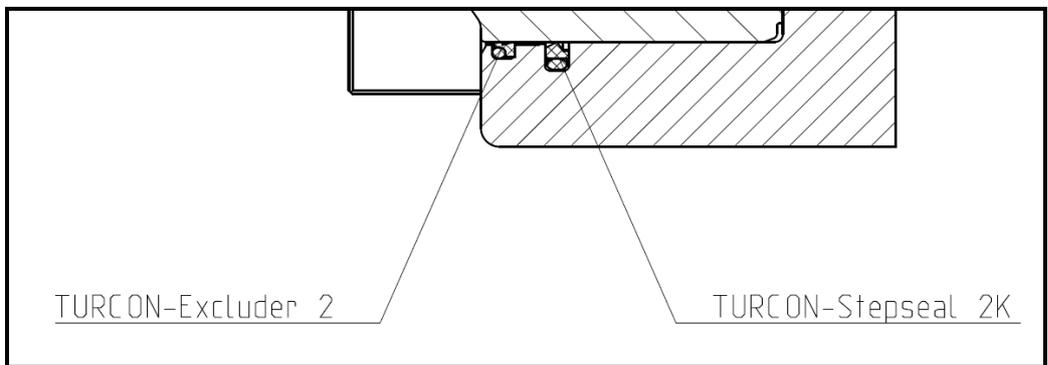

Fig. 11.3
- Disassemble the half of the brake caliper. Loosen the hexagon nuts M10 (item 8) and remove the pressure springs and the friction pad. Close up one pressure oil connection on the brake caliper half and attach a hydraulic hand pump onto the second pressure oil connection. Hold the brake housing (item 2) tight or clamp it. Squeeze the brake pistons (item 7) out using the hand pump. Make sure that the brake piston is squeezed evenly out of the brake housing (item 2).
- Remove the Turcon Excluder 2 (item 5) and then the Turcon Stepseal 2K (item 4) from the brake housing (item 2). Insert the new seal into the brake housing. In doing so, ensure the correct fitting position of the seal (see Fig. 11.3). This should only be carried out by hand, so that the sealing edge is not damaged. To make fitting easier, the seal can be bent into a kidney shape and placed into the groove. Slightly oil the seal. Push the piston in with a press or, using a plastic hammer, hit it centrally into the cylinder borehole until it comes to a stop.